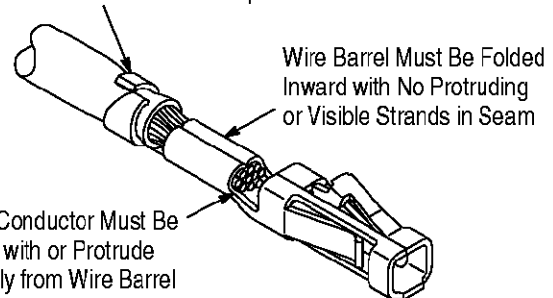

Figure 4
7. Remove crimped contact from tool, and inspect the crimp according to Figure 4.